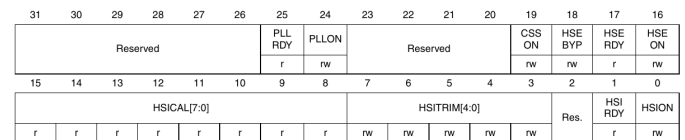

Fig. 1.3: RCC Clock Control Register (RCC- >CR)
**Solution:** Fig. 1.3 shows the RCC- >CR register. The above instruction enables the HSE crystal, which is 8 MHz for the STM32F103C8T6.